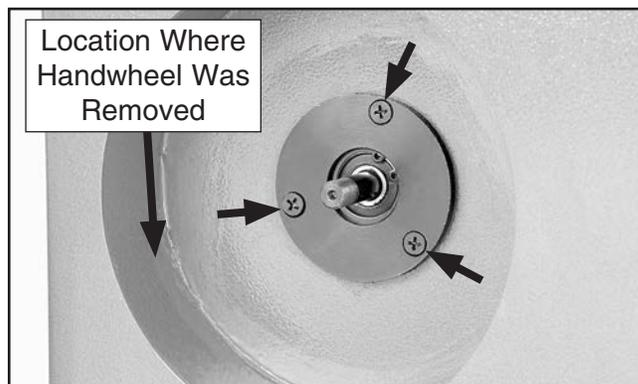

Figure 3. Bearing support plate screws.
9. On left side of jointer (facing front of machine), remove (3) Phillips head screws that secure bearing support plate to cabinet (see **Figure 3**).